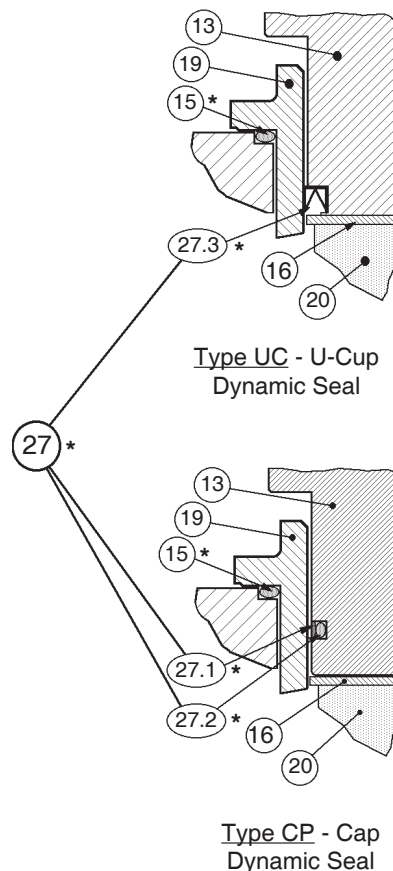
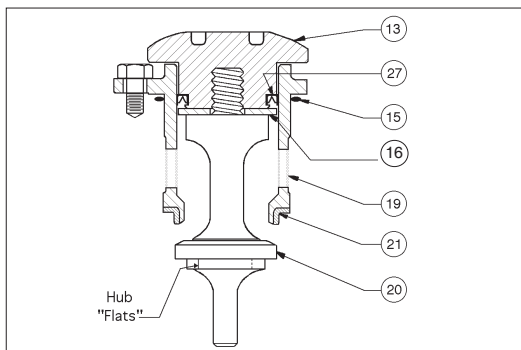

Figure 1: Dynamic Side Seals
Figure 2: Assembled ITA, with "UC" Dynamic Side Seal
6. A detailed view of the dynamic side seal parts is shown in Figure 1; an assembled ITA in Figure 2; and a cross-sectional drawing of the entire regulator is shown in Figure 3.
1. To Disassemble the ITA (See Figure 2):
- a. Hold the lower part of the valve plug (20) in a bench vise; grasp in "smooth jaws" directly under plug's (20) seating disc portion on hub "flats" provided. Do not hold on the machined surface in the plug's (20) spindle area.
1. Installation of dynamic side seal (27) (See Figure 1):
1. Position u-cup seal (27.3) over lower circumference of piston-guide bearing (13). Ensure the u-cup seal is oriented with the center-open-downwards as shown in Figure 1, as the u-cup seal depends upon the P1-Inlet pressure to activate proper sealing action.
2. Insert shim (16) into cage (19) and allow to rest inside the cage.
3. Position piston-guide bearing (13) over and into upper end of cage (19) until the cap seal (27.1) edge touches the upper lip of the cage. Gently apply downward force to press the piston-guide bearing (13) into the cage (19). **DONOT** use tools, lubricant, or heavy force to engage the u-cup seal (27.3) into the cage.
2. Place properly oriented seat ring (21) onto its shoulder at the lower end of cage (19).
- a. Insert valve plug (20) upwards through lower end of cage (19) and through the center hole of shim (16).
- b. Engage valve plug (20) with piston-guide bearing (13) threads and finger tighten.
- c. Place ITA into a vise with smooth jaws and grasp at hub "flats" location on the valve plug (20) that is not in the "spindle" zone. (See Figure 2.)
- d. Using a special double-posted spanner wrench fitting (to order see NOTE in Section IX, Parts Ordering Information), tighten the piston-guide bearing (13) to the valve plug (20) with the following torque values. Do **NOT** allow valve plug (20) to rotate against seat ring (21) during tightening.